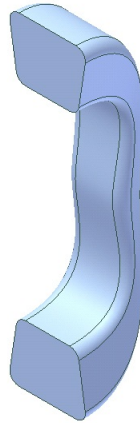

Figure 8-166 Solid model of the receiver
9. Apply the **Blue-Glazing** color to the model. Change the viewing direction of the model. The model of the receiver is shown in Figure 8-166.